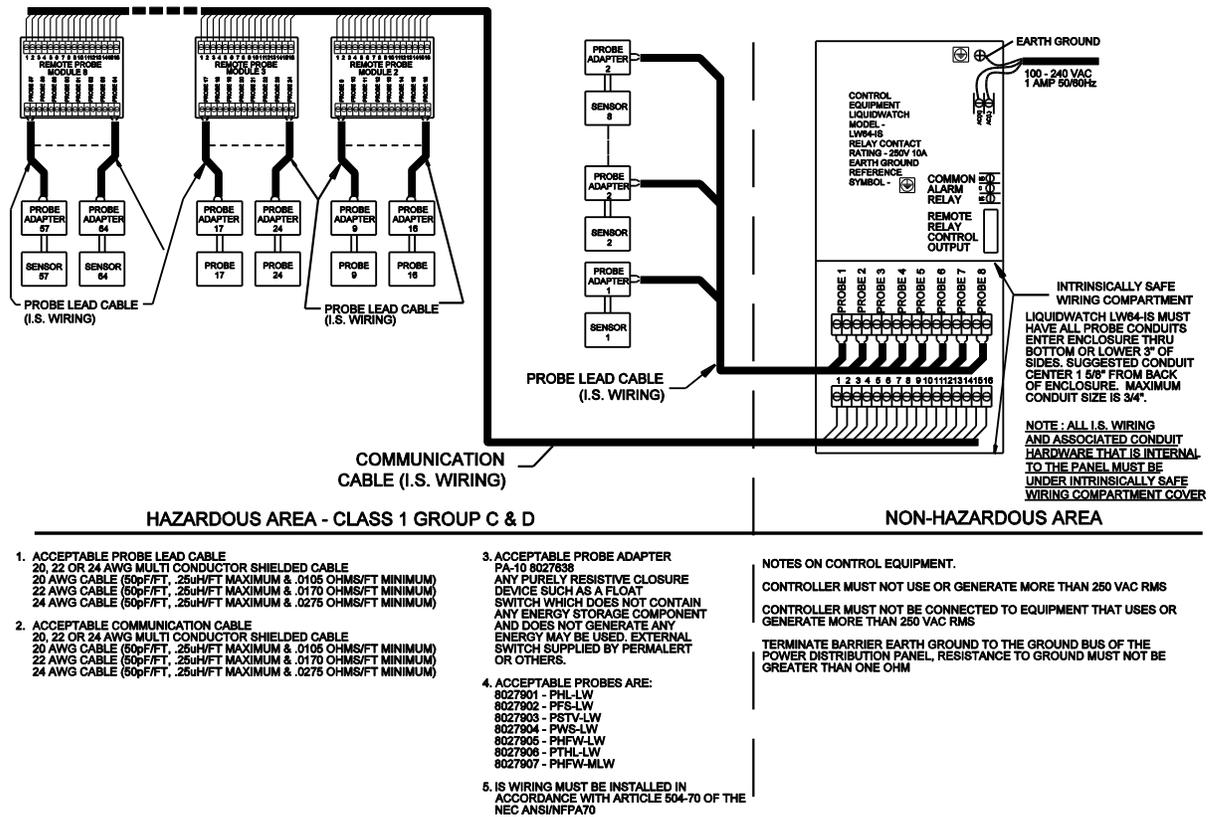

Figure 4
LiquidWatch LW64-IS is Listed by Underwriters Laboratories, Inc., for use in ordinary locations. LW64-IS provides intrinsically safe output circuits for use in Class 1, Division 1, Groups C and D hazardous locations when used with LiquidWatch sensor probes and installed in accordance with the instructions in this manual. Refer to Section 3.1 for specific probe UL requirements. Also, refer to LiquidWatch control drawing, Figure 4, for intrinsic safety requirements.
4. PHLR-LW hydrocarbon sensor, with the included PA-10 probe adapter, in accordance with note 3 of figure 4, LiquidWatch Control Drawing.